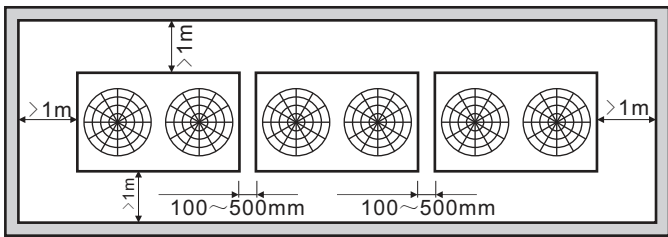

Fig. 3.10 Installation space of outdoor unit
1) When installation, a maintenance space as shown in Fig.3.10 shall be left, the power supply device shall be installed at the side of the outdoor unit as per the method shown in the installation manual for the power supply unit.